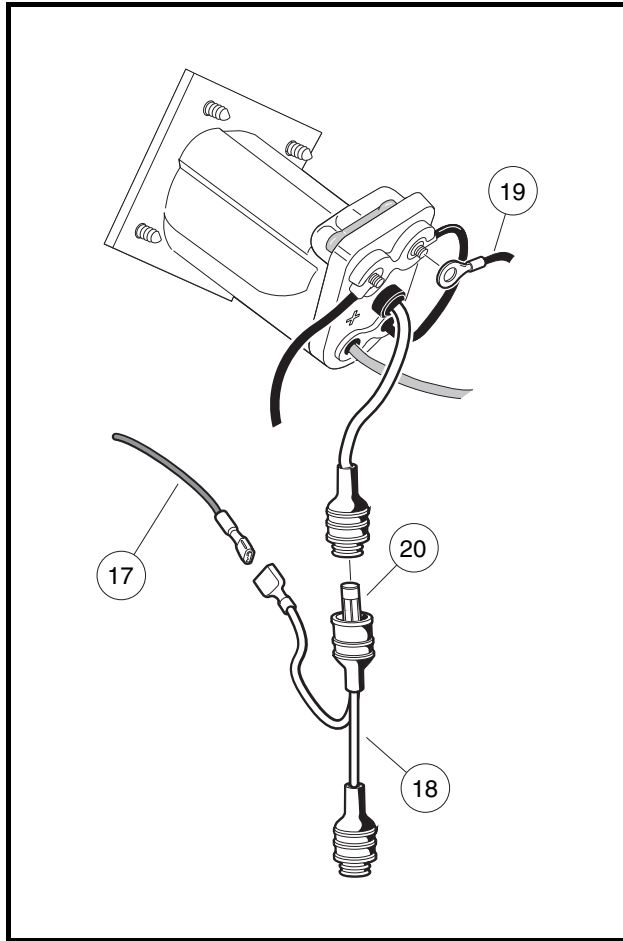

Figure 4-28 Charger DC Cord Black Wire and Blue Wire – DS Villager 4
3. Remove 10-gauge black charger DC cord wire (19) from the charger receptacle fuse link (Figure 4-28, Page 4-34).
5. Disconnect the 10-gauge charger DC cord blue wire (17) from the 3-way wire adapter (18) at the sense lead fuse (20) (Figure 4-28, Page 4-34).